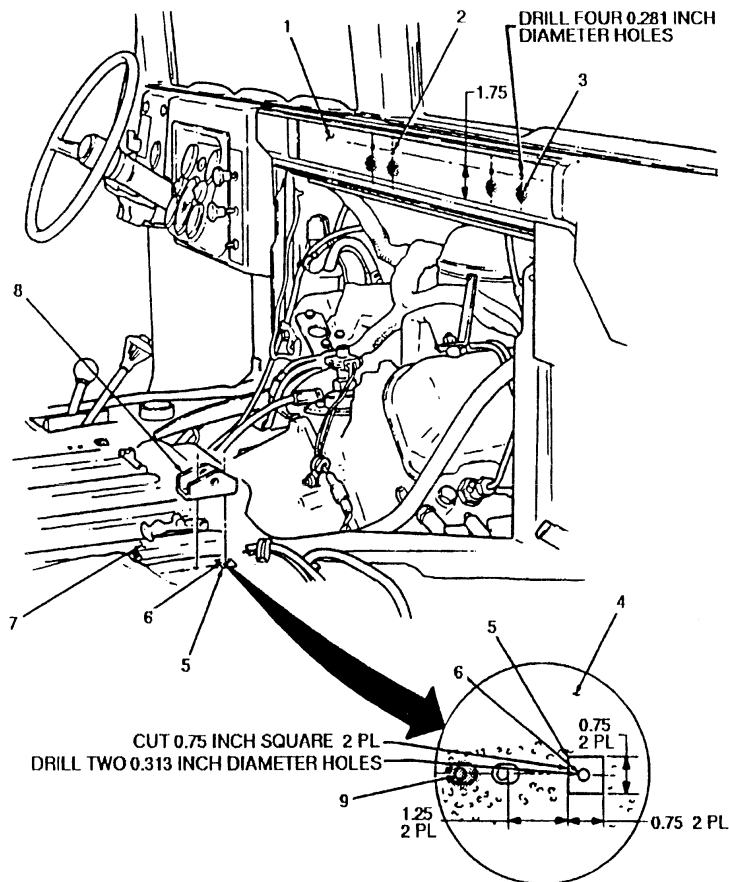
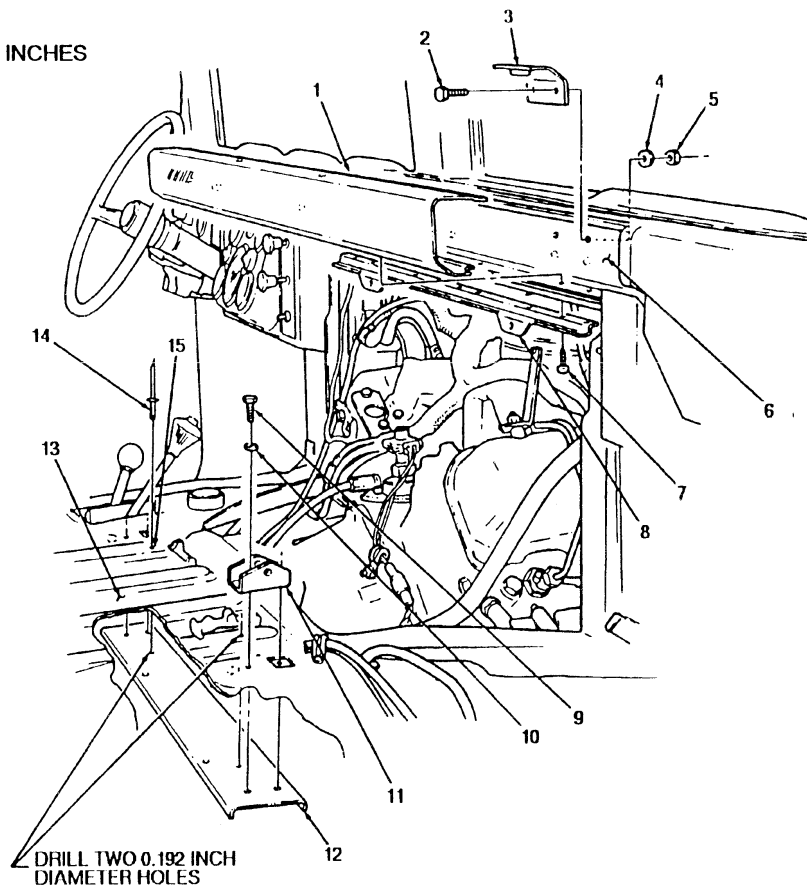

FIGURE 3-73
FIGURE 3-74
2. Locate, mark, and drill four 0.281-inch diameter holes (2) in "A" beam (1). (see figure 3-73)
3. Cut two 0.75-inch square holes (5) in floor mat (4) on top of tunnel floor (7).
4. Using two P/N 12446766 radio rack mounting brackets (8) as templates, locate, mark, and drill two 0.313-inch diameter holes (6) in top of tunnel floor (7).
5. Secure P/N 12446764 radio rack brace (12) and two radio rack mounting brackets (1) to tunnel floor (13) with four existing screws (9) and washers (10). (see figure 3-74)
6. Locate two holes (1) in tunnel floor (13) made by rivets removed in para. A, step 14, and drill two 0.192-inch diameter holes in radio rack brace (12).
7. Install two NSN 5320-01-143-5075 rivets (14) in tunnel floor (13) and radio rack brace (12).
8. Position two P/N 12446765 radio mounting bracket assemblies (3) to "A" beam (6) and secure with four existing screws (2), washers (4), and NSN 5310-00-013-1245 nuts (5).
9. Apply RTV 736 sealant to fill four holes (3) in "A" beam (1) and two holes (9) in floor mat (4). (see figure 3-73)
10. Position plenum panel (1) and engine shroud mount (8) on "A" beam (6) and secure with nine existing screws (7). (see figure 3-74)